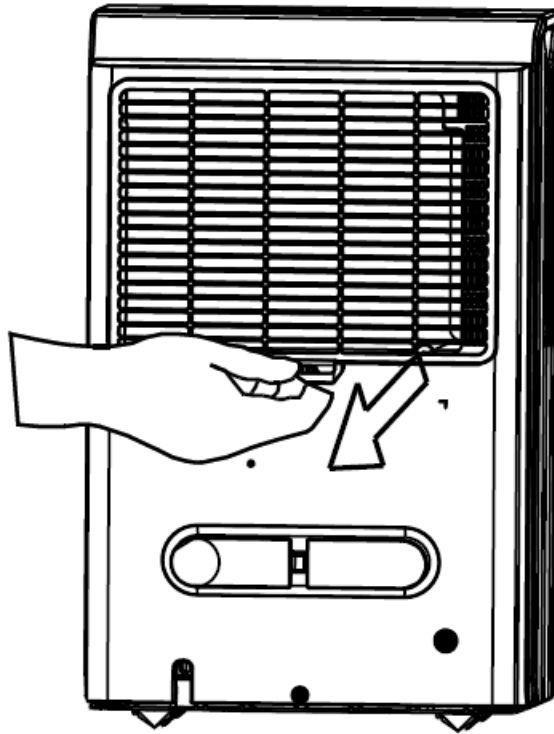

Fig. 14
- To remove the filter, pull the filter outwards (See Fig.14).